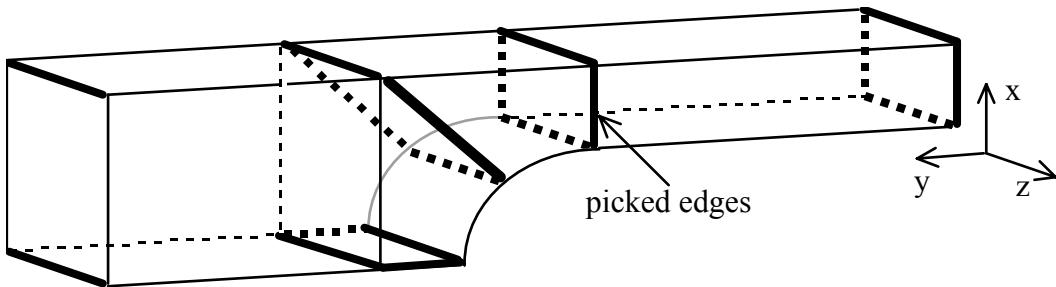

Figure 3.5. Eighteen collected edges for three subdivisions.
Step 5: Select **Subdivide Edges**, collect the edges shown in Figure 3.5, and then select **FINISH**.